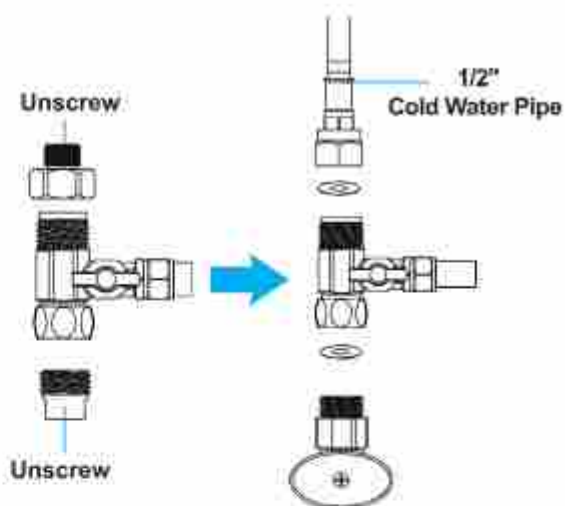

Figure 4
**NOTE:** If the cold water pipe is 1/2", unscrew the two converters from the feed water adapter firstly (Figure 4), then implement step 3.